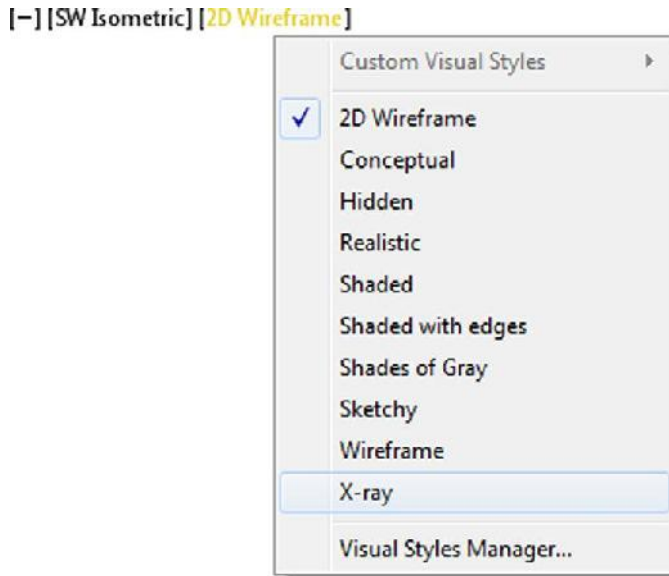

FIGURE 16.6: Selecting the X-Ray visual style
6. Returning to the in-canvas viewport controls, click the Visual Style Control menu, currently displayed as [2D Wireframe], and select X-Ray (see Figure 16.6).